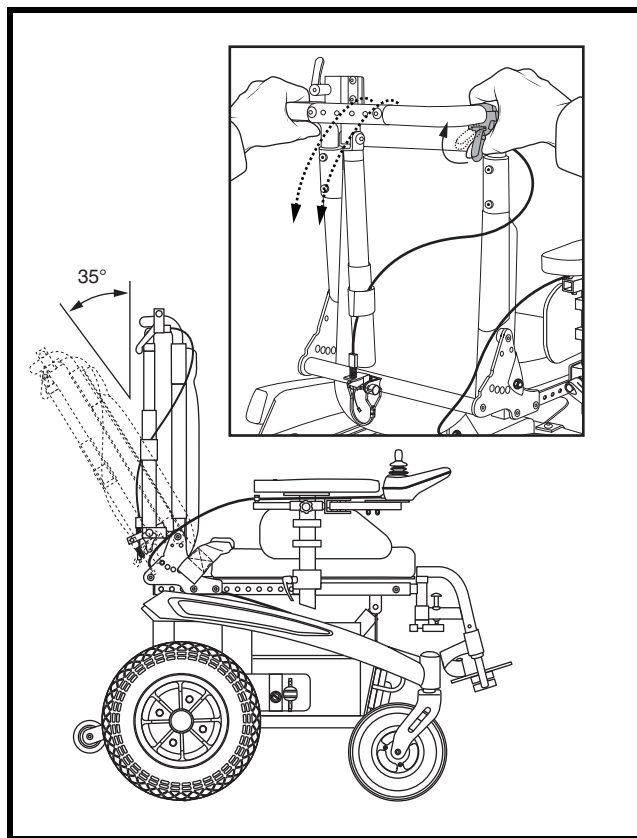

Figure 10. Manual Recline Seatback Adjustment
1. Squeeze the seatback release lever. See figure 10.